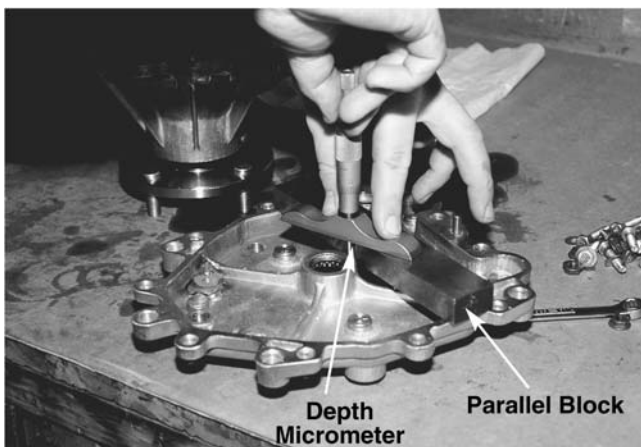

Figure 10-64.
24. Prior to assembling the two housings together, make sure that there is proper clearance between the gear and inner housing by measuring the distance from the mating surface of the housing to the boss on the center of the housing. See Figure 10-64.